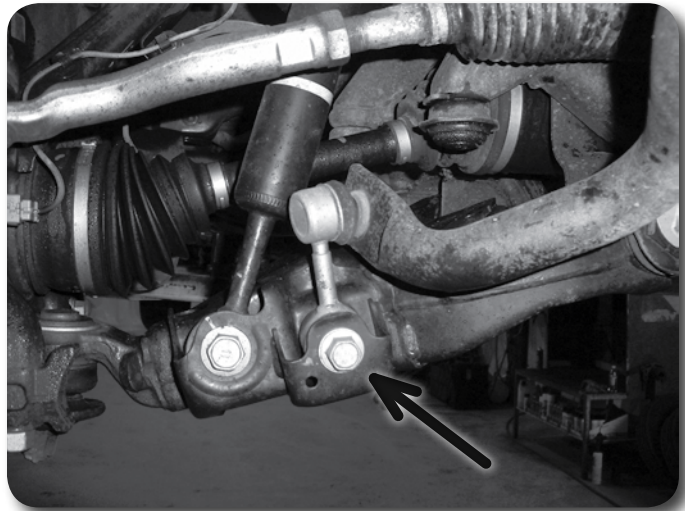

Figure 4
7. Disconnect the sway bar links from the lower control arms. **Figure 4**. Save the lower mount bolts.